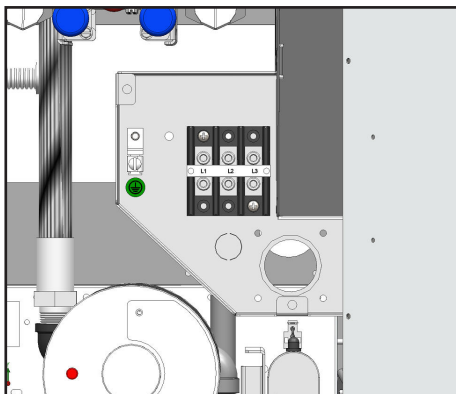

Figure 2.6.3 - Wire housing strain relief hole: 2" or 1.75" diameter.
3. Referring to figure 2.6.3, Install cable strain relief in housing **cutout** (1). Attach power cable wires to terminal block (2) per connection diagram on fryer door.